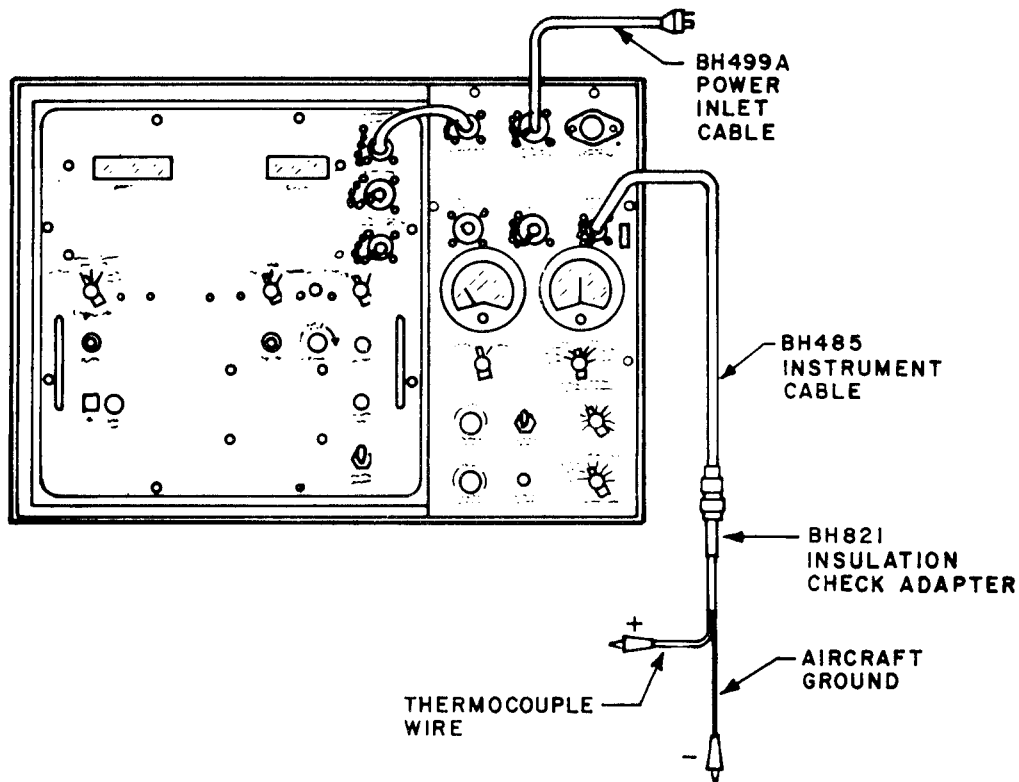

Figure 2-7. Insulation Resistance Check Setup.
(8) If resistance is within tolerance, proceed to check insulation resistance as described in paragraph *e*.
(9) Turn FUNCTION SELECT and MASTER POWER switches to OFF position before removing cables from tester and aircraft.
e. Insulation Resistance Check. In the insulation resistance check, the resistance between the thermocouple conductors and aircraft ground is measured first, followed by a check of the resistance between the conductors. Refer to figure 2-7 and proceed as follows:
(1) Turn FUNCTION SELECT, STD DAY, and MASTER POWER switches to OFF position.
(2) Connect BH485 instrument cable to INSTRUMENT CABLE receptacle on tester and to BH821 insulation check adapter, and disconnect both leads at aircraft indicator.
(3) Turn FUNCTION SELECT switch to INSUL position, INSULATION CHECK switch to RX1000 position, an MASTER POWER switch to ON position.
(4) Short alligator clips together. Meter should read 0 ohms.
(5) Connect one lead of insulation check adapter to a bare thermocouple lead in aircraft and connect other lead to aircraft ground.
(6) INSULATION RESISTANCE meter should indicate resistance specified for aircraft being checked.
(7) Disconnect engine thermocouple harness from airframe thermocouple harness.
(8) Disconnect insulation check adapter from aircraft ground and connect to other thermocouple lead.
(9) INSULATION RESISTANCE meter